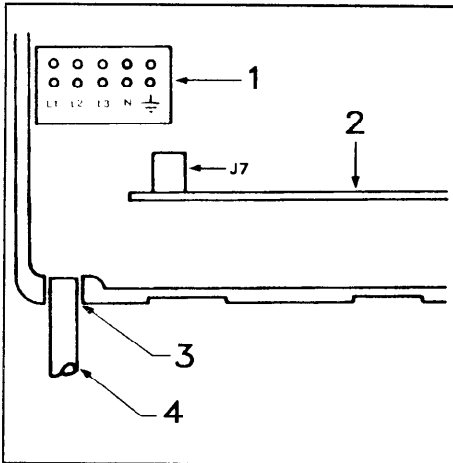

Figure 3.10 —
3. Route the service line through the conduit located below and to the left of the control panel door. Secure it inside the cabinet with the two screws which are used to tighten the strain relief bracket (see Figure 3.10).
4. Make the appropriate connections at the five-station input terminal block (TB1) according to the instructions provided below (see Figure 3.10).